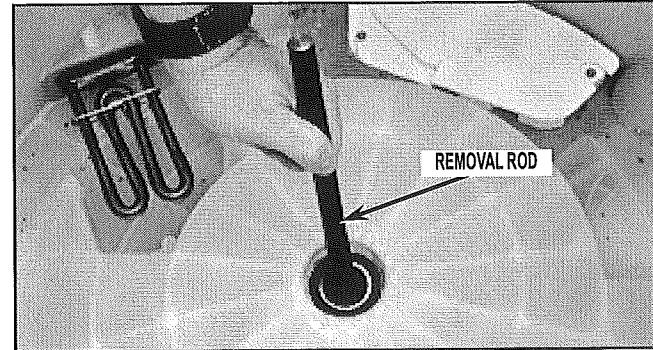

FIGURE 9
- Drive Bottom Bearing, Bottom Bearing Washer and Spacer Tube out using Removal Rod and hammer. See *Figure 9*.